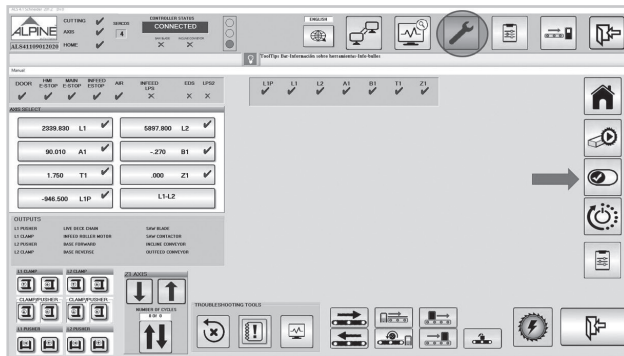

Figure 164
Step 3 – Enable the Axes by clicking or touching the button shown in Figure 164.